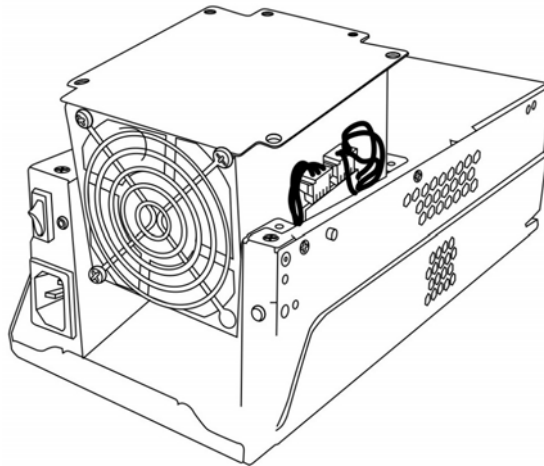

Figure 1-10: Cooling Module
Two cooling modules are implemented within the rear sections of PSU modules. (see **Figure 1-10**.) The cooling fans operate at two (2) fan speed levels. When the subsystem operates normally, the cooling fans operate at the lower speed. If a major component fails or when one of the temperature thresholds is violated, the cooling fans automatically raise its rotation speed.